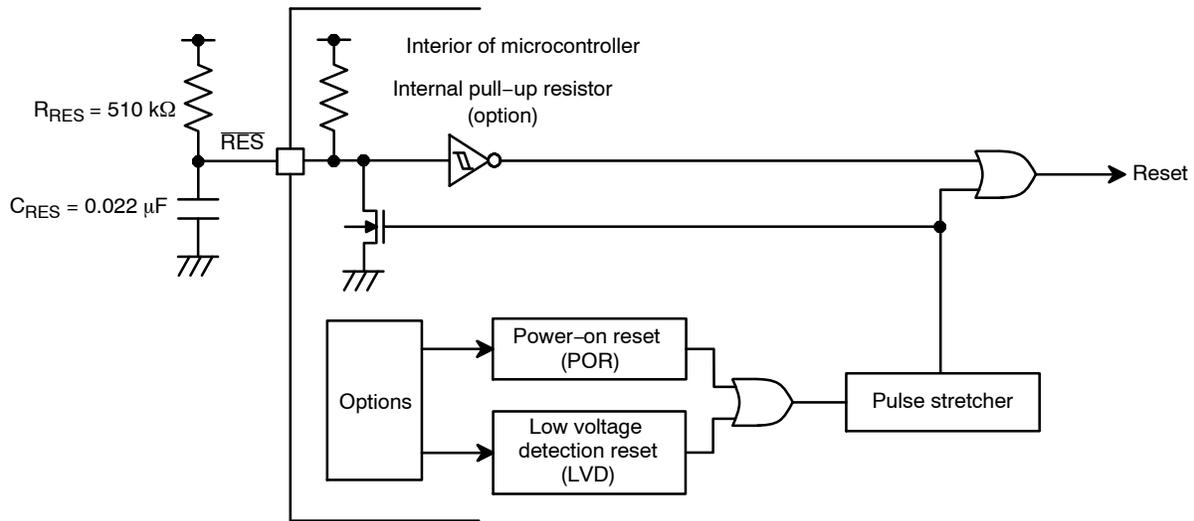

Figure 42. Internal Reset Circuit Configuration
* See Figure 42 for details of the WDT operating modes.
The internal reset circuit consists of POR, LVD, pulse stretcher circuit, capacitor C_{RES} discharging transistor, external capacitor C_{RES} + pull-up resistor R_{RES} or pull-up resistor R_{RES} alone. The circuit diagram of the internal reset circuit is given in Figure 42.
After the reset signal from the internal reset circuit is released, the reset period is further stretched according to the external CR time constant. This enables the microcontroller to avoid the repetitive entries and releases of the reset state from occurring when the power-on chatter occurs. The circuit configuration shown in Figure 42 in which the capacitor C_{RES} and pull-up resistor R_{RES} are externally connected, is recommended when both POR and LVD functions are to be used. The recommended constant values are: $C_{RES} = 0.022 \mu$ F and $R_{RES} = 510 \text{ k}\Omega$. When the disuse of the internal pull-up resistor function is selected by option, the external pull-up resistor R_{RES} must always be installed even when the set's specifications inhibit the installation of the external capacitor C_{RES}